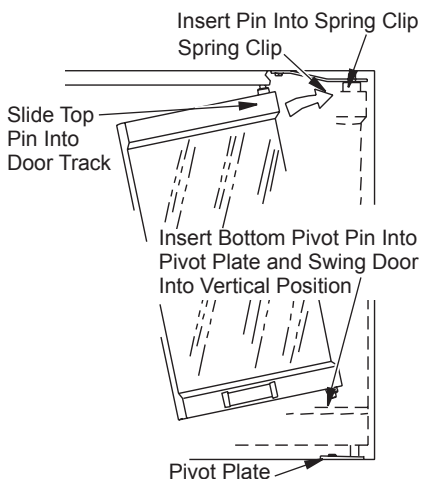

Figure 31 - Installing Optional Glass Door
2. With handle facing center of firebox opening, insert lower pivot pin on glass door panel into hole in pivot plate on bottom edge of fireplace opening (see Figure 31, page 17).
4. Tilt glass assembly fully vertical until outer pivot pin snaps into mounting hole in upper spring clip (see Figure 31).